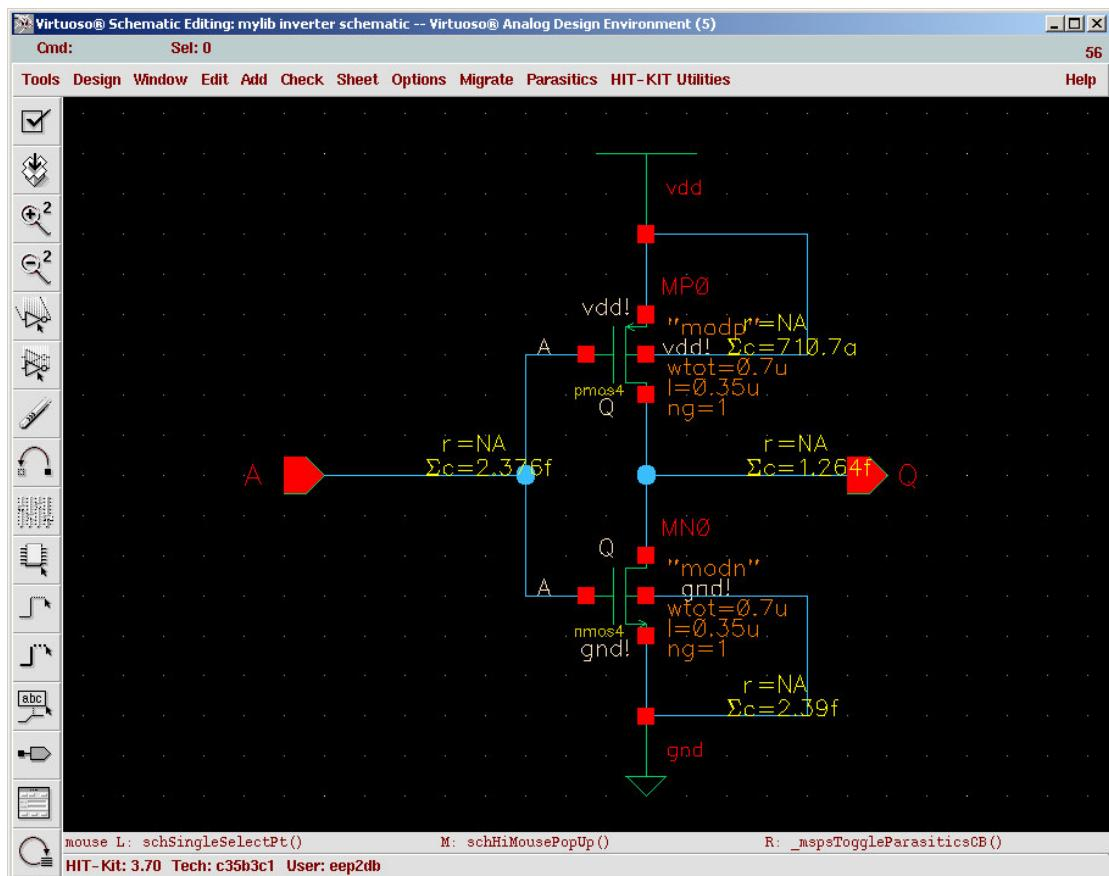

Figure 40. Back Annotation of Parasitics in the Inverter Schematic
17. Back in **Virtuoso Schematic Editor**, click **Parasitics**, then **Show Parasitics**. You will notice that your schematic now shows the sum of the capacitive elements for the four major nodes of the circuit as shown in Figure 40. The resistive elements will not be enabled at this time in this view. This process is called “back annotation.”